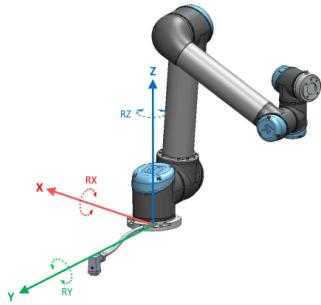

Figure 13.1: Base feature
- *Base feature*: located with origin in the centre of the robot base (see figure 13.1)